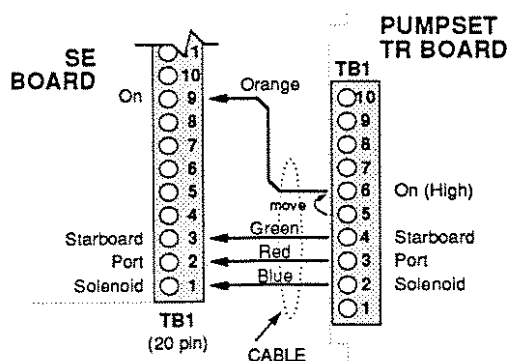

Fig. 5 - Wagner SE autopilot control head
2. Refer to figs. 5 through 8 for wiring details for the type of pumpset controller you are using.